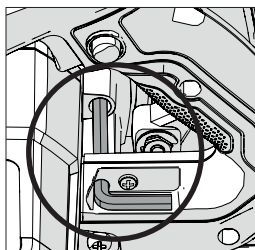

Fig. 1
- Locate the supplied Blade Change Hex Key which is housed in the onboard storage facility (similarly position on all machines). (Fig. 1)